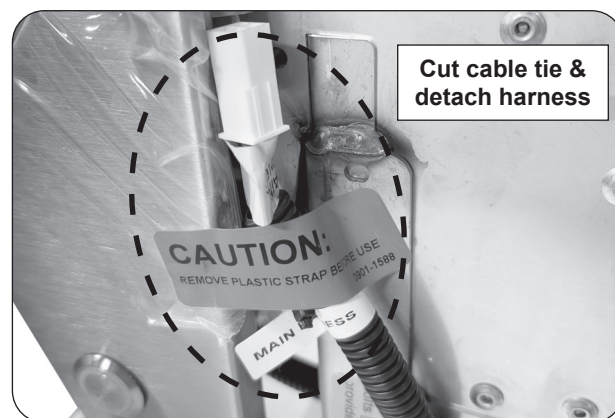

Fig. 26-2 Cut cable-tie
2. Locate the wire harness that is secured to the right side of the control panel (with a cable tie that is labeled for removal). Carefully cut the cable tie and allow the harness to hang freely. See Fig. 26-2.